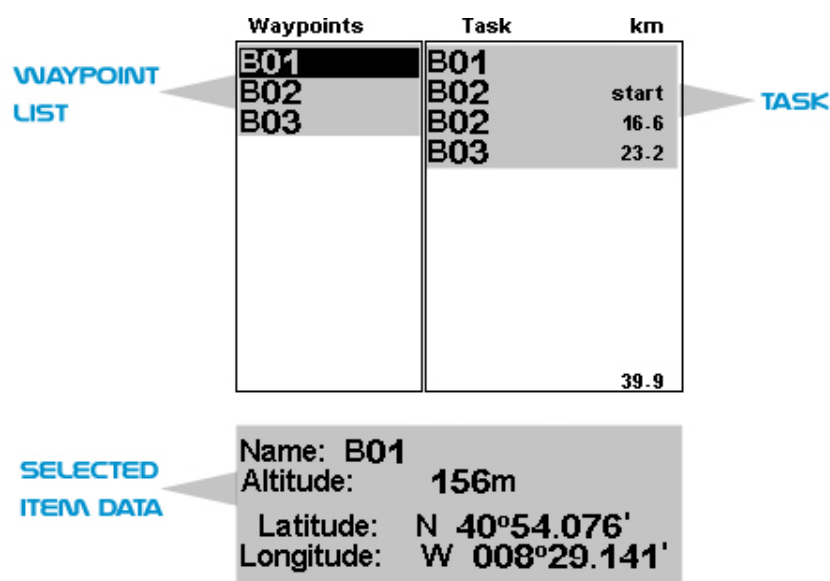

Figure. 18 - Waypoints and Task page
The Waypoints/Task page allows the user to manage waypoints, and define a route/task As shown in Figure. 18, the page is divided into 3 areas, namely the waypoint list (WL); task (TK) and selected waypoint data/options list (DO). The DO area can change according to the situation. Specifically, it can show the selected waypoint data, or a list with possible actions for the waypoints.